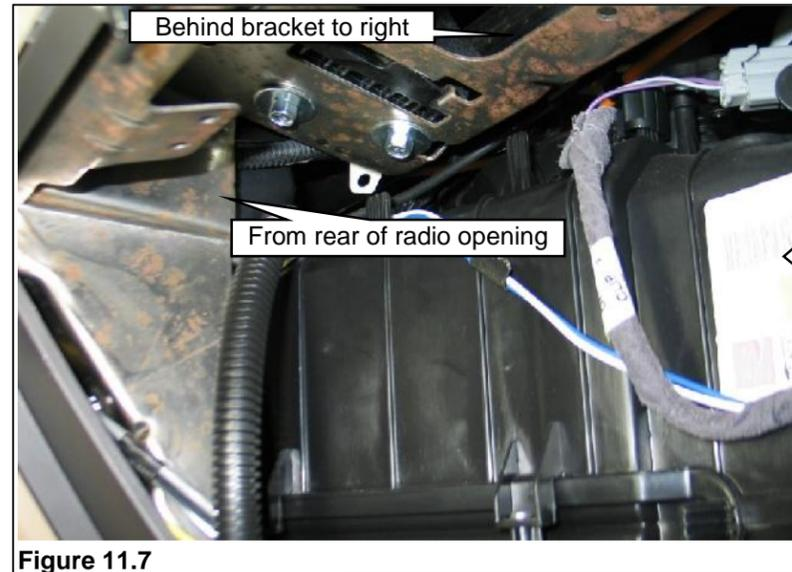

Figure 11.7
7. Route the CAN bus harness from the radio opening onto the top and to the right of the HVAC unit. **Figures 11.7 and 11.8.**